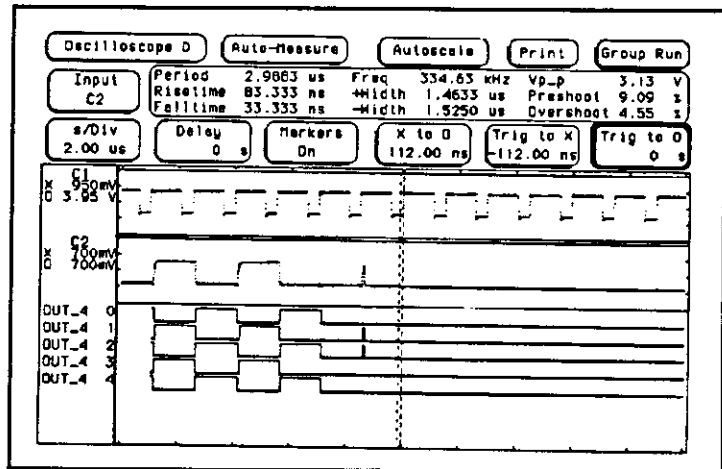

Figure 12-19. Displaying Multiple Module Data on One Screen
- Touch **Done** and the **Waveform Selection** pop-up will disappear, returning you to the waveform display. As shown in figure 12-19, the five HP 16510B timing analyzer channels (**OUT\_4**) are now displayed with the HP 16530A/16531A oscilloscope channels **C1** and **C2** on the **Oscilloscope D Auto-Measure** menu.